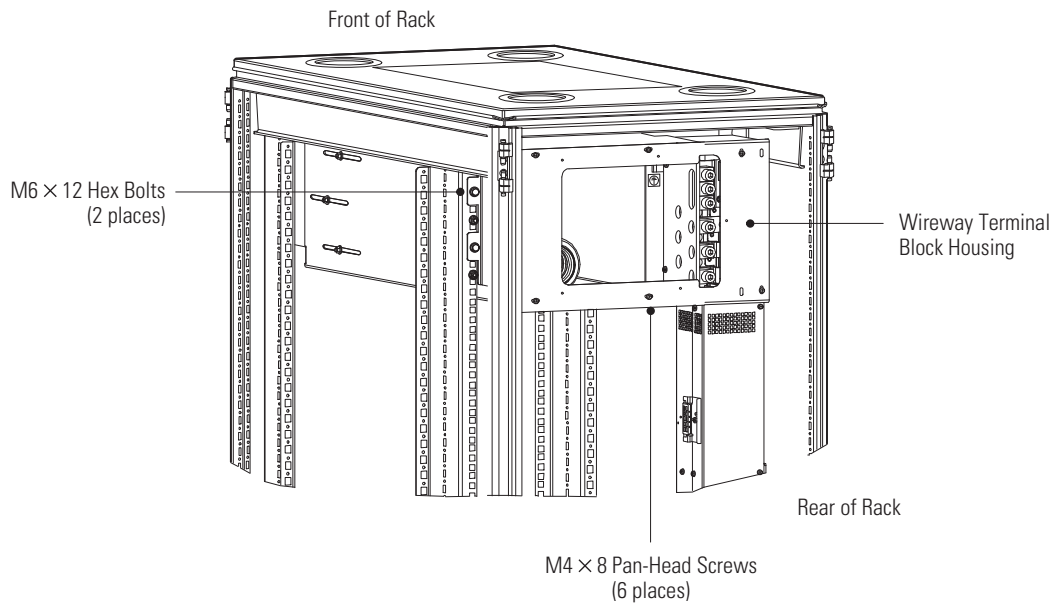

Figure 17. Wireway Terminal Block Housing Installation
20. Using two M6 x 12 hex bolts, secure the left side of the wireway terminal block housing to the rack. See Figure 17. Torque the bolts to 5.1 ± 0.8 Nm (45 ± 7 lb in).
21. Using six M4 x 8 pan-head screws, secure the wireway terminal block housing to the wireway and to the bar. See Figure 17. Torque the screws to 1.7 ± 0.2 Nm (15 ± 2 lb in).